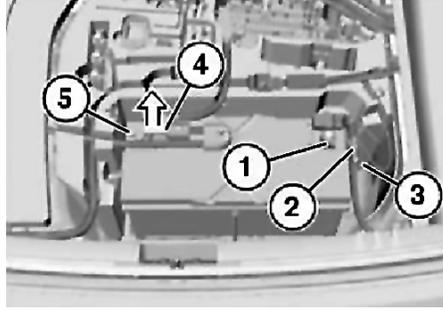

Fig. 3 Battery positive cable disconnection
5. Loosen battery positive cable terminal nut (5), **Fig. 3**.
6. Disconnect battery positive cable terminal (4) from battery and position aside, **Fig. 3**. Do not disconnect terminal by force.
5. Connect battery positive cable terminal (4) to battery, **Fig. 3**. **Torque** terminal nut (5) to 44 inch lbs.